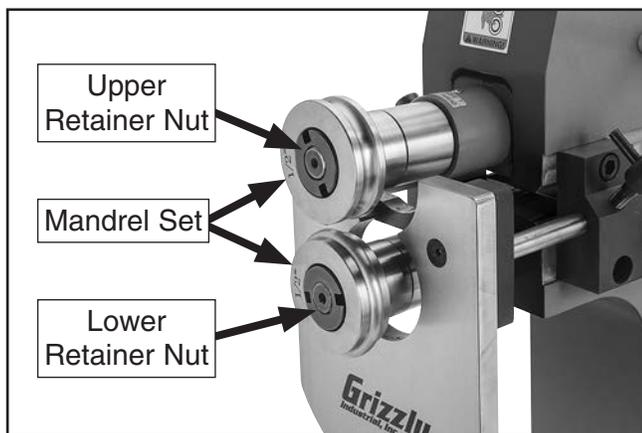

Figure 30. Location of retainer nuts and mandrels.
Replacement mandrel sets are available for various applications (see **Accessories** on **Page 27** for more information). To change the mandrels, first use the included spanner wrench to remove the retainer nuts (see **Figures 30–31**).
- The upper retainer nut (see **Figure 30**) has left-hand threads. Rotate it clockwise to loosen and counterclockwise to tighten.
- The lower retainer nut (see **Figures 30–31**) has right-hand threads. Rotate it counterclockwise to loosen and clockwise to tighten.